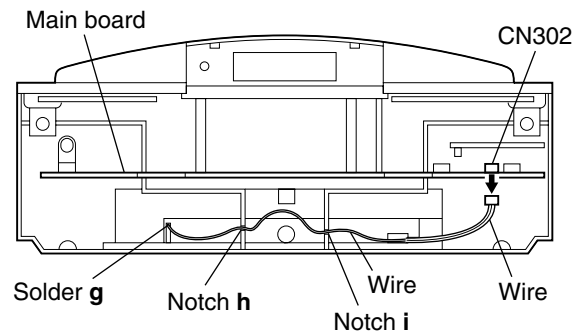

Fig.11
(See Figs.11 and 12)
1. Disconnect the wire from the connector CN302 on the main board. (See Fig.11.)